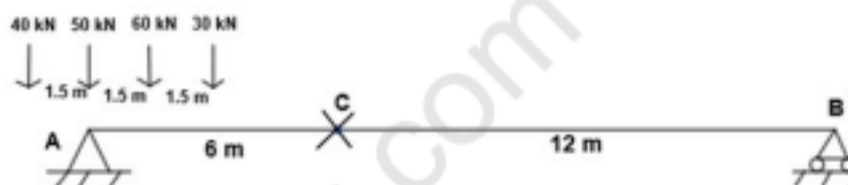

Fig.3
- c) A train of four concentrated loads crosses a simply supported girder of 10 m span with 30 kN leading. See fig.3. Determine